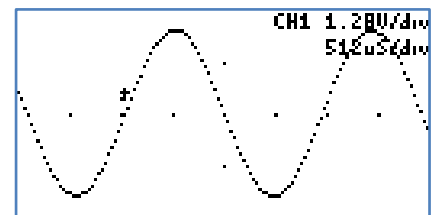

Figure 44: Pixel Display
- **Pixel:** A single pixel represents a sample. The pixel display is useful at slow sampling rates or when used in combination with the persistent mode. Figure 44 shows the pixel display.